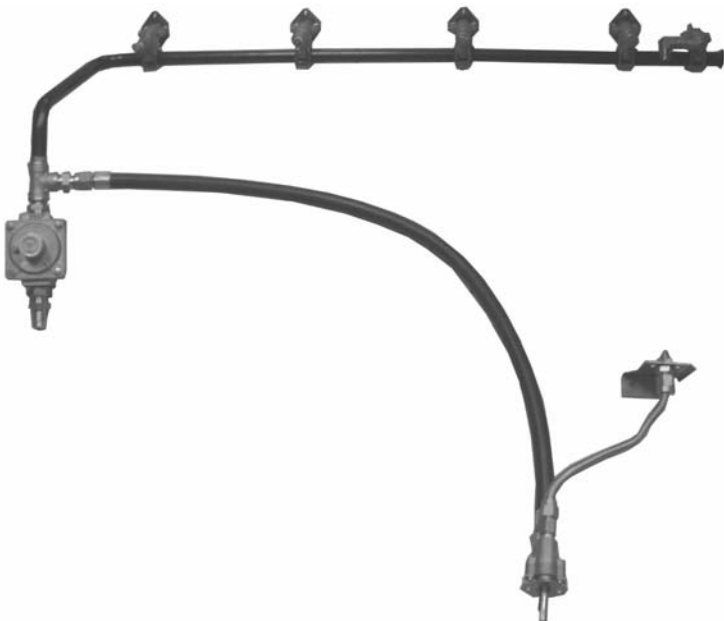

Fig 21
30. Attach the other end of the side burner hose to the flare fitting on the side of the tee connector. (See Fig. 21)